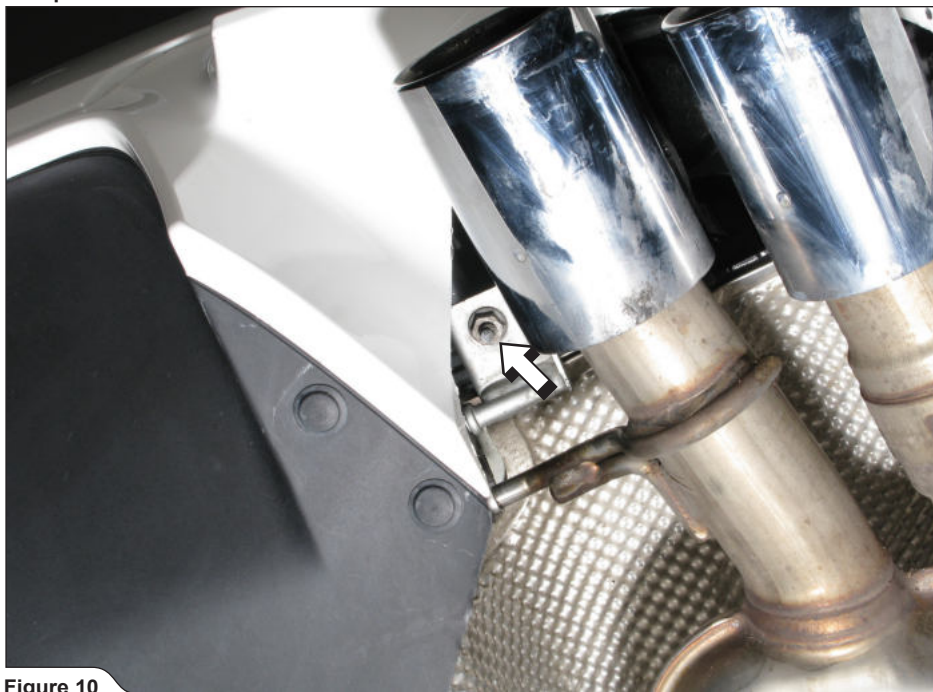

Figure 10
8. Support the stock exhaust system and unscrew all mufflers' brackets (**Figure 10, 11**).